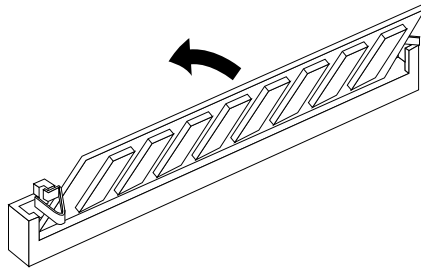

Figure 3-12 Tilting the SIMM Up to a Vertical Position
- Tip the top of the SIMM toward you, as shown in Figure 3-12, and press the SIMM securely into the socket at a 45-degree angle to the board.